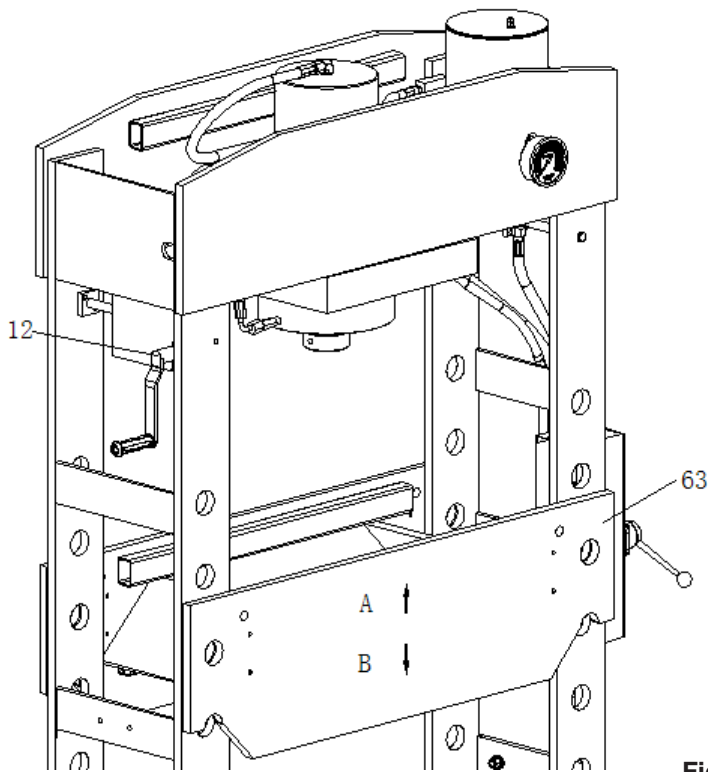

Fig.13
1. Assembling the Handle (12) to Hand wrench, turn the Handle(12) clockwise, then the Bed Frame (63) will move up(A) and turn the Handle(12) anticlockwise, the Bed Frame(63) will move down(B).(Refer to Fig.13)